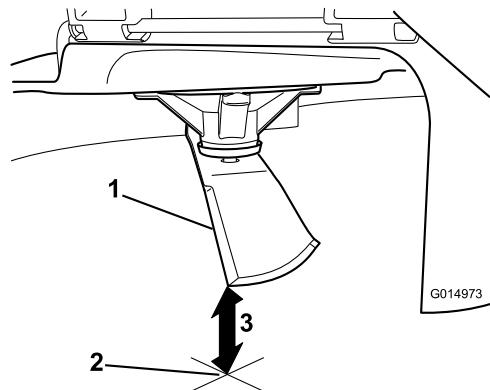

Figure 91
5. Measure from the tip of the blade to the flat surface (Figure 91).